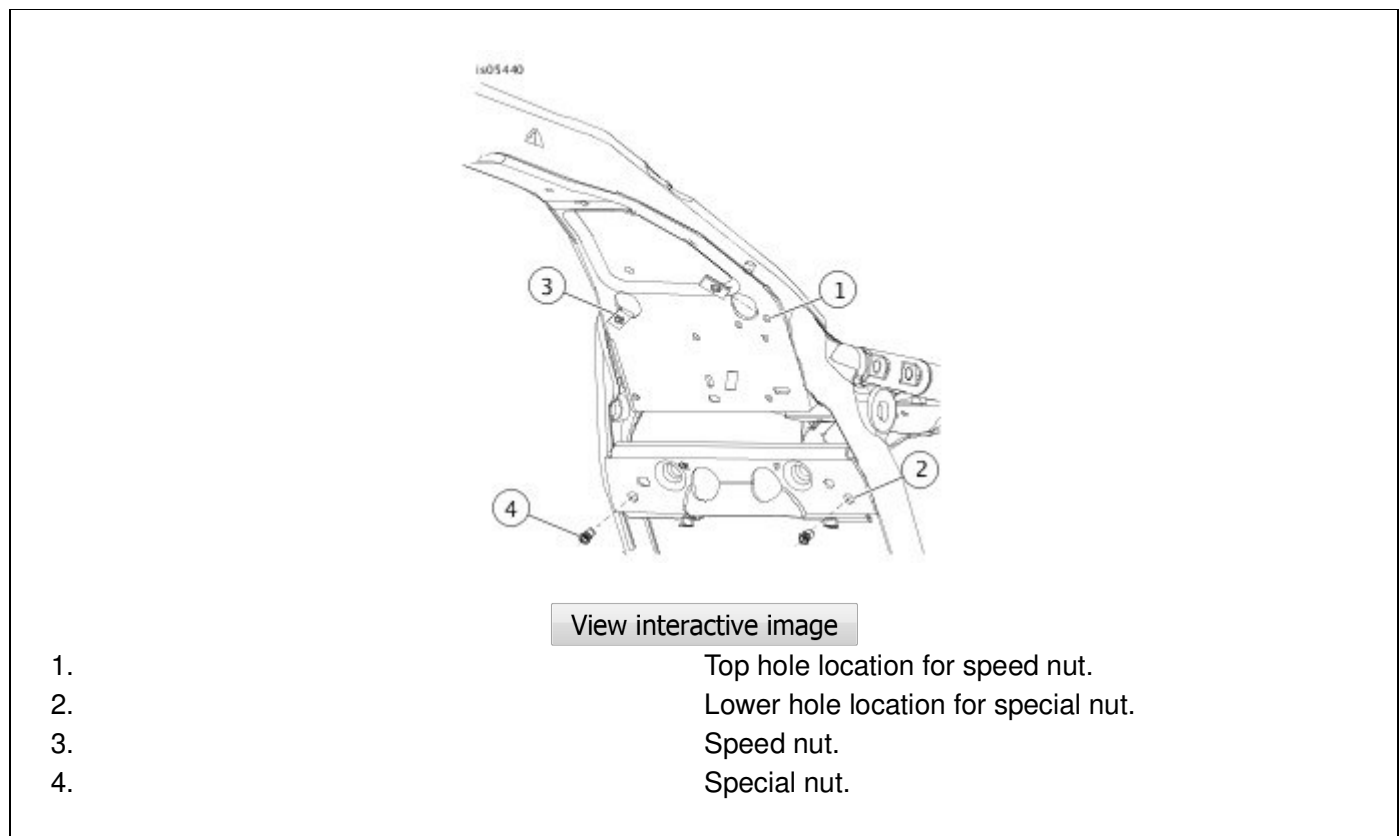

Figure 1. Fastener Locations
1. See **Figure 1** and identify the frame hole locations that are used to fasten the air deflector hardware.